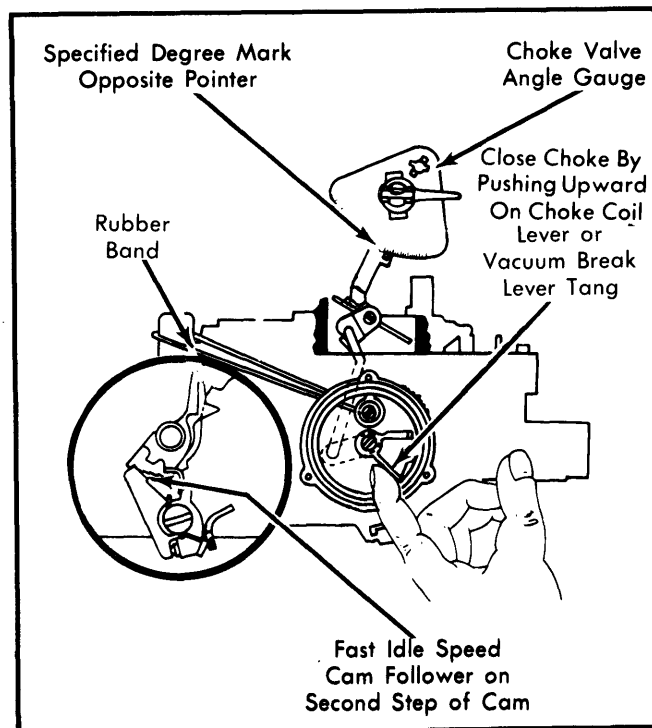

Fig. 5 Adjusting Choke Rod (Fast Idle Cam)
- 1) Place fast idle speed cam follower on second step of fast idle cam against shoulder of highest step. See Fig. 5.